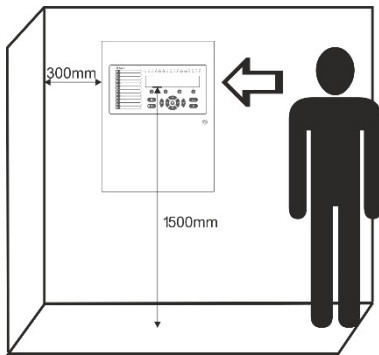

Figure 1
- The panel must be installed in a clean dry place and must not be subjected to impact or vibrations (Figure 1). It must be situated far from heating appliances. The temperature must be within  $-5^{\circ}\text{C}$  and  $+40^{\circ}\text{C}$ . The fire panel is not waterproof!